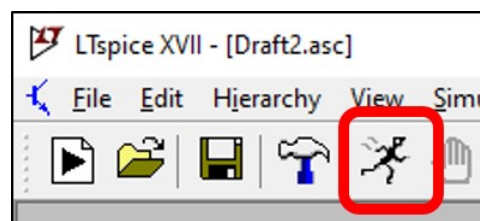
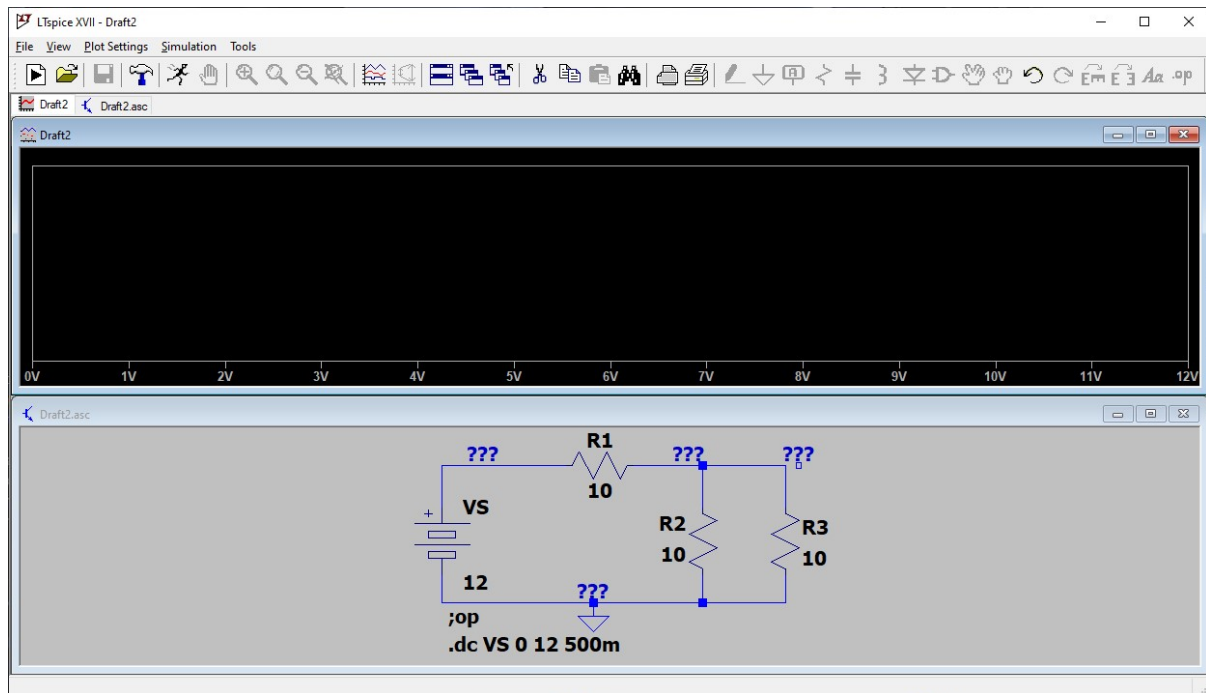
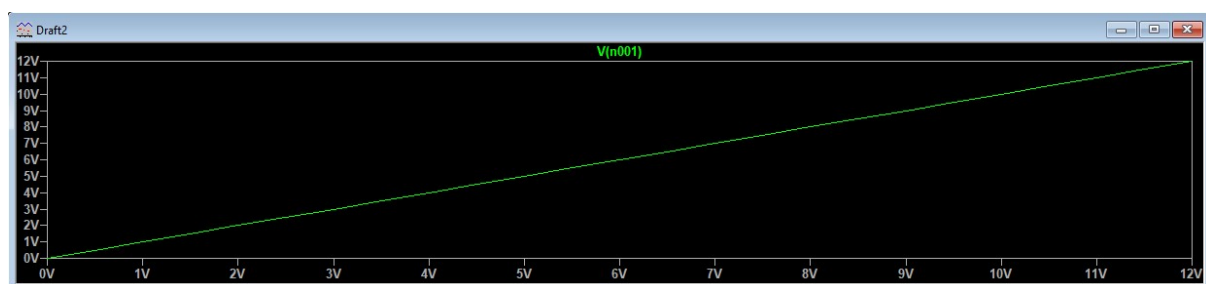

Figure 36: LTspice run simulation button.
Figure 47: LTSpice window after DC sweep simulation.
Figure 48: LTSpice graph window with VS measurement (node n001).
4. To run the simulation, click on the *Run* button indicated in Figure 36.
4. Click on the *Run* button (Figure 36) to run the DC sweep simulation. A blank graph window will open in the *LTspice* window as shown in Figure 47.
- To add a trace (measurement) to the graph, you need to click on the node you want to measure. Click on the node at the positive side of VS as indicated by the red cross in Figure 47. A trace representing the voltage of VS will appear in the graph window as shown in Figure 48.
Tip: The names of the traces are shown at the top of the graph window in the colour of the trace. In Figure 48, the trace is called $V(n001)$, where $N001$ is the node name. In this circuit, the voltage of node $N001$ is the same as the voltage of VS .